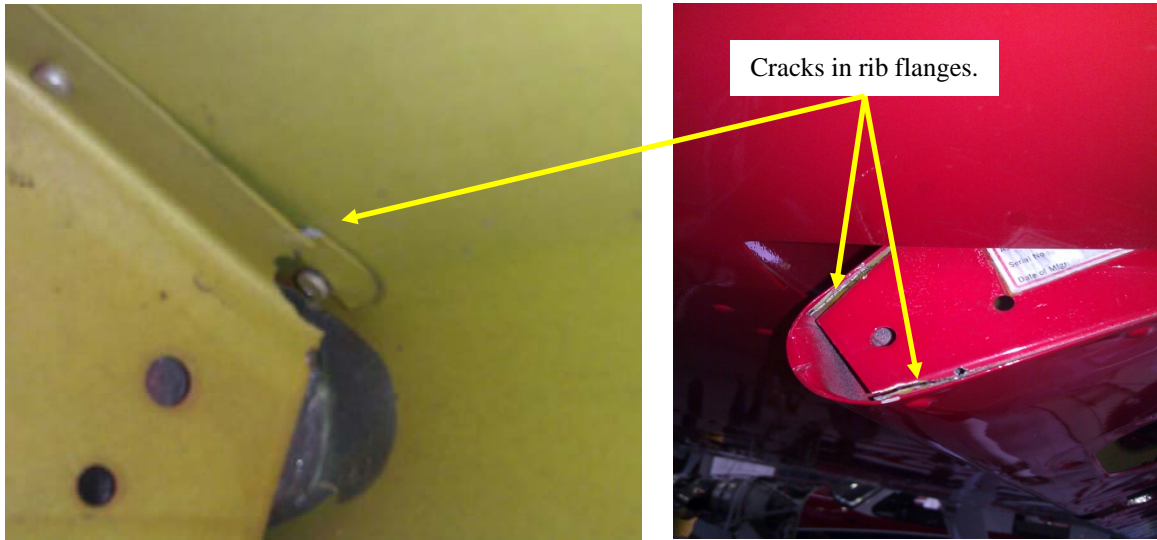

Figure 5-1: Example of Rib Flange Crack
1. Inspect the rib flanges for cracks and general condition. Refer to **Figure 5-1** for examples of structural damage.